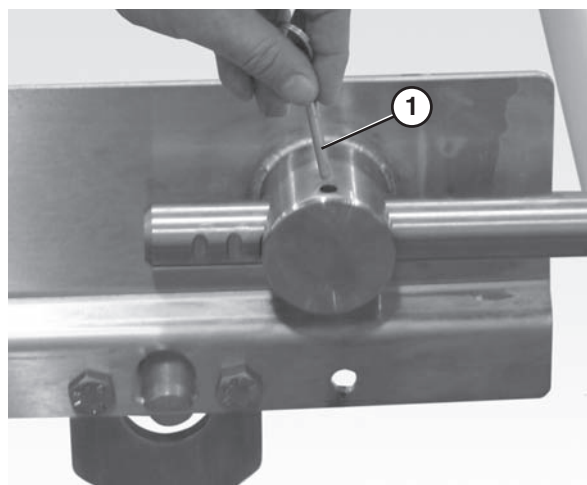

Figure 46
9. Insert the pull pins (**Figure 46**, item 1) on the tension end of the conveyor.